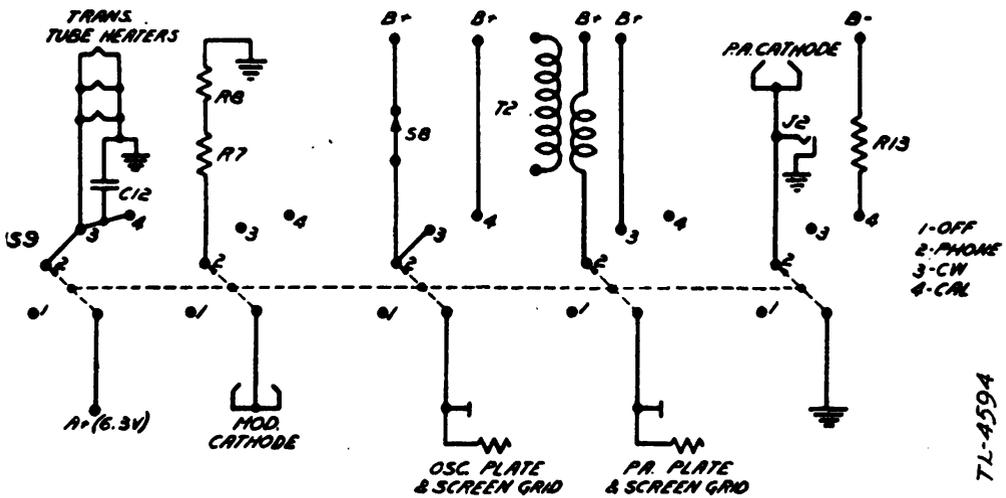

FIGURE 15.—EMISSION SELECTOR switch—functional diagram.
h. Emission selector switch (fig. 15).—The EMISSION SELECTOR switch S9 has five sections of four positions each. Switch S9 serves